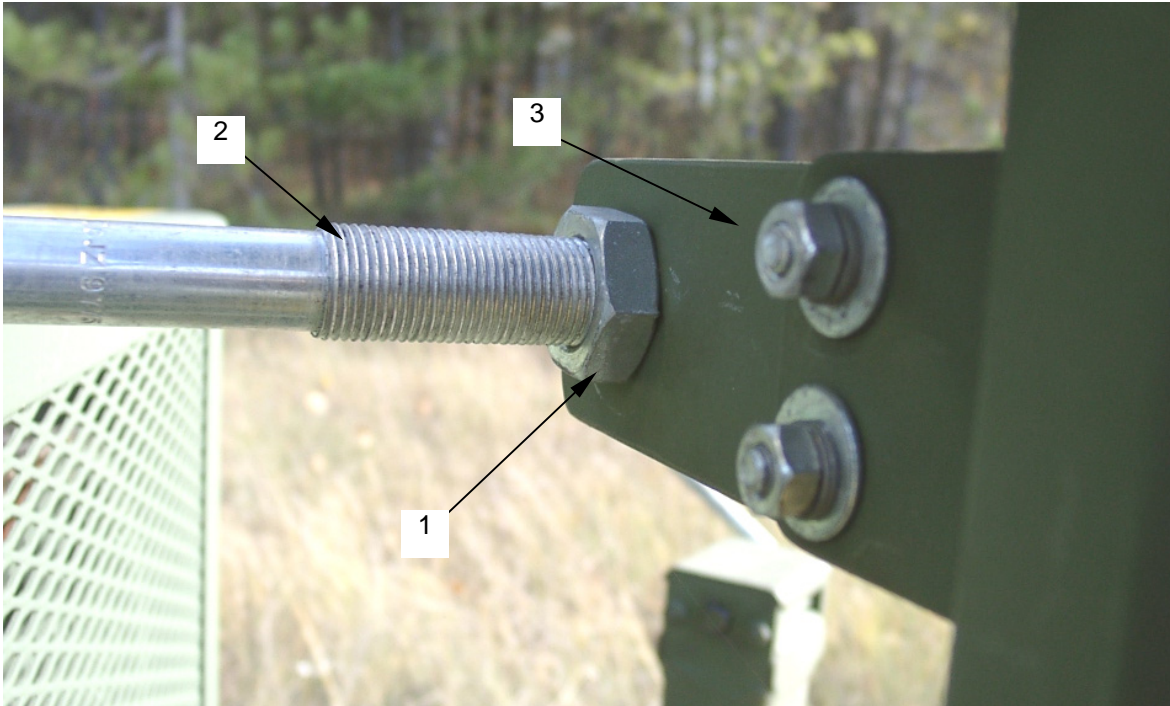

Figure 45. Mounting Nut
- c. Loosen and remove throttle control mounting nut (**figure 45, item 1**).
- g. Fasten throttle in place with throttle control mounting nut (**figure 45, item 1**).